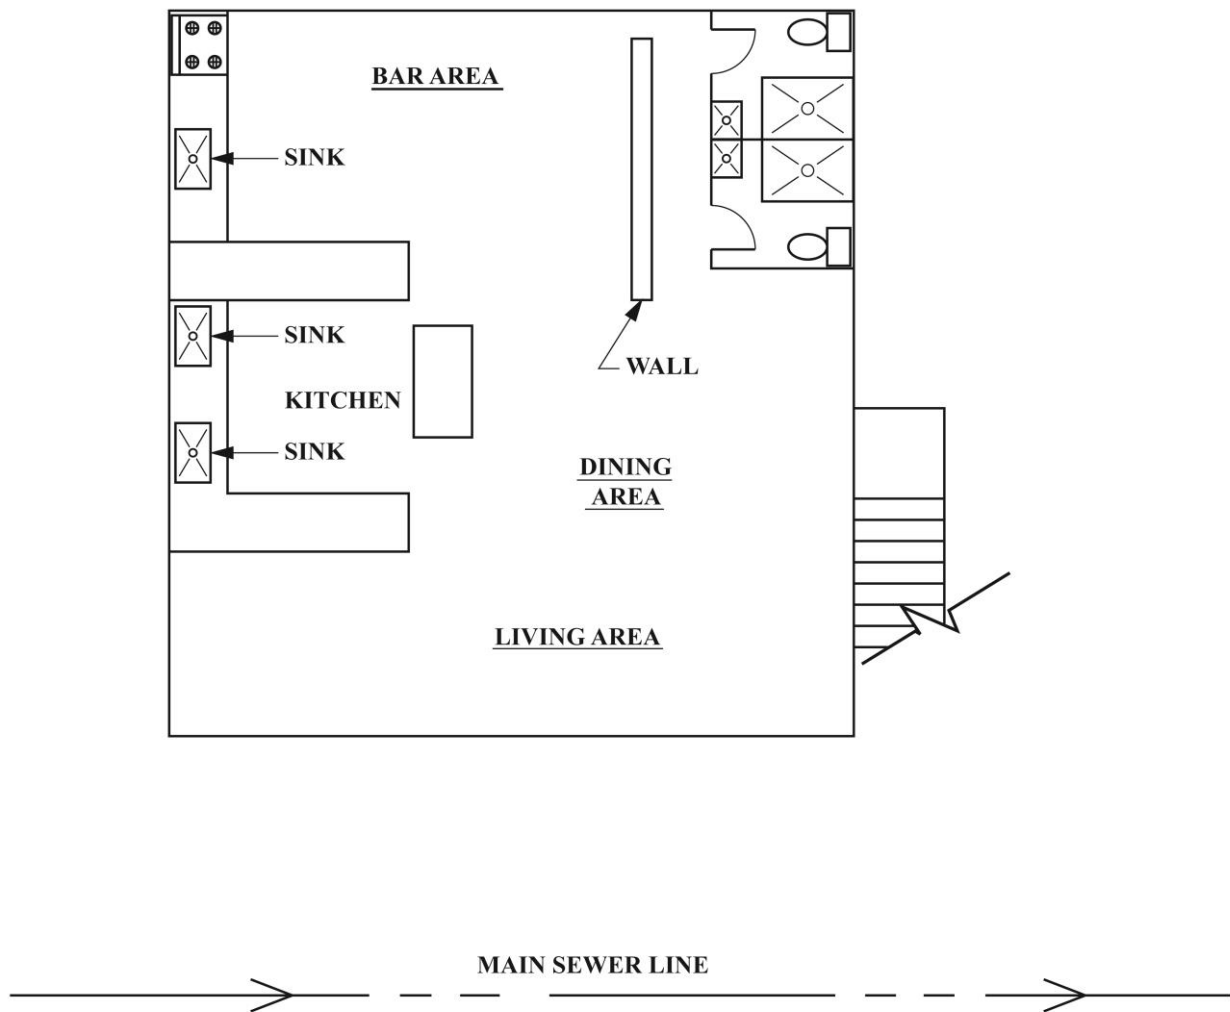

Figure 7. Upper floor plan
8. Figure 7 shows the upper floor plan of a beach house and a main sewer line.